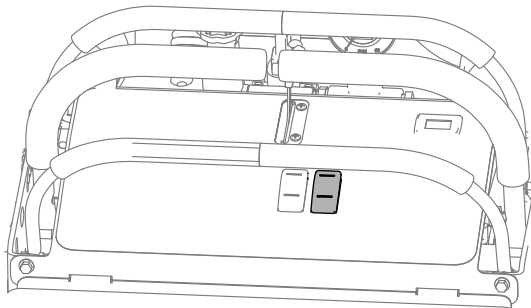

Figure 19
2. Turn the sprayer pump on (Figure 19).
2. Switch the sprayer pump on (Figure 19).